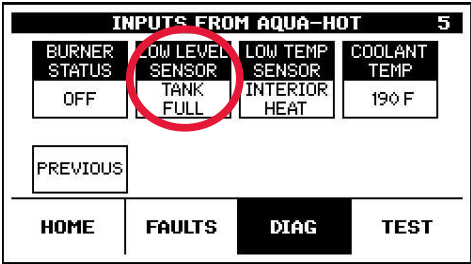

Figure 75
- 7. Pay attention to the “LOW LEVEL SENSOR” item on this page. See Figure 75.